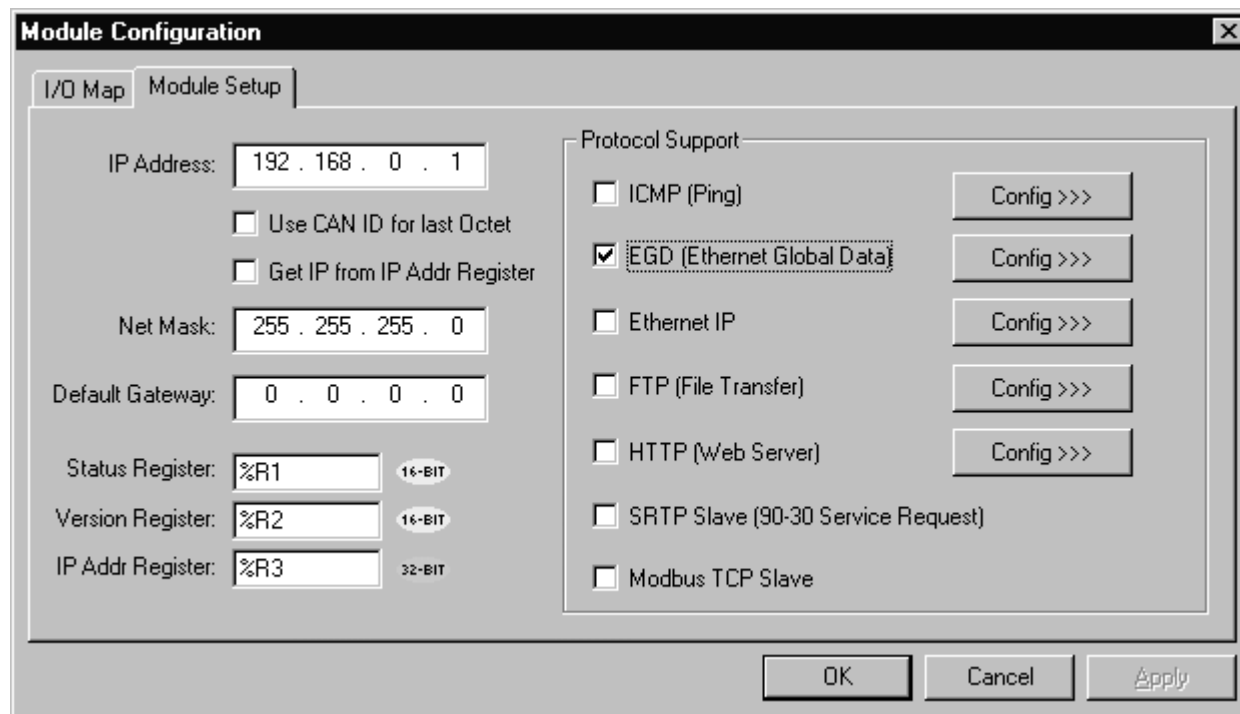
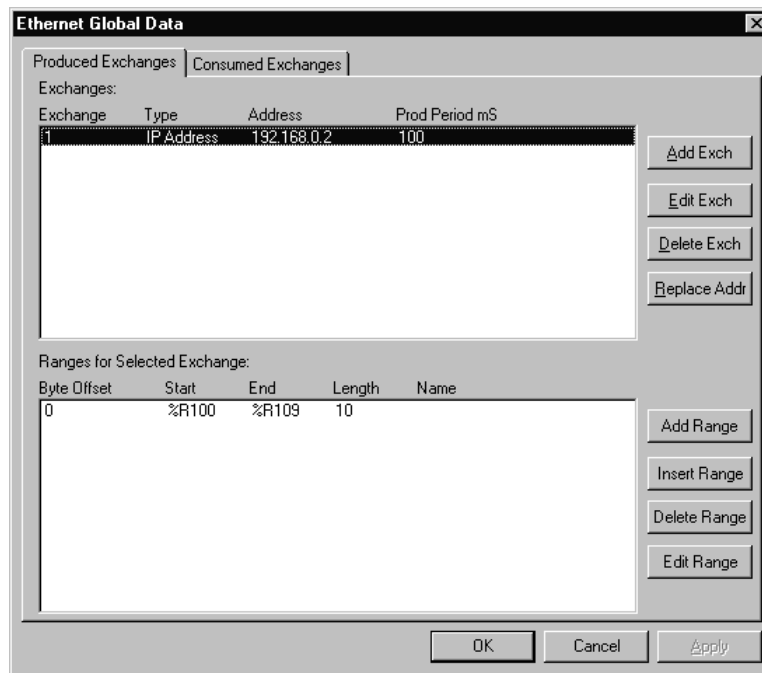

Figure 6.7 - Ethernet Module Configuration - Node 1
Figure 6.10 – Configured Produced Exchange 1 - Node 1
1. On the main Cscape screen, select **New** on the **File** menu to start a new user program. Then open the Ethernet Module Configuration dialog (Chapter 3, Figure 3.5 [page 19]), and fill in the parameters for Node 1, as shown in Figure 6.7 below.
At this point, the Produced Exchanges tab in the EGD Configuration dialog should be as shown in Figure 6.10.
1. On the main Cscape screen, select **Open** from the **File** menu and open the saved Node 1 user program (**EGD Node 1.csp**). Then open the Ethernet Module Configuration dialog (Figure 6.7 [page 40]) and click on the **Config** button next to the **EGD (Ethernet Global Data)** checkbox to open the EGD Configuration dialog (Figure 6.10 [page 44]).